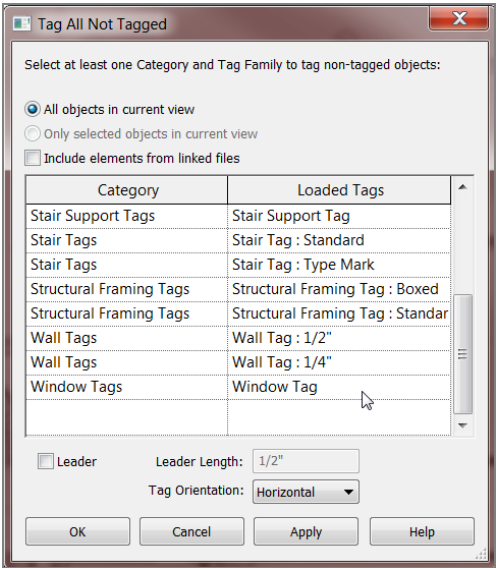

FIGURE 11.67: Selecting door and window tags
6. Make sure the All Objects In Current View radio button is selected (see Figure 11.67).